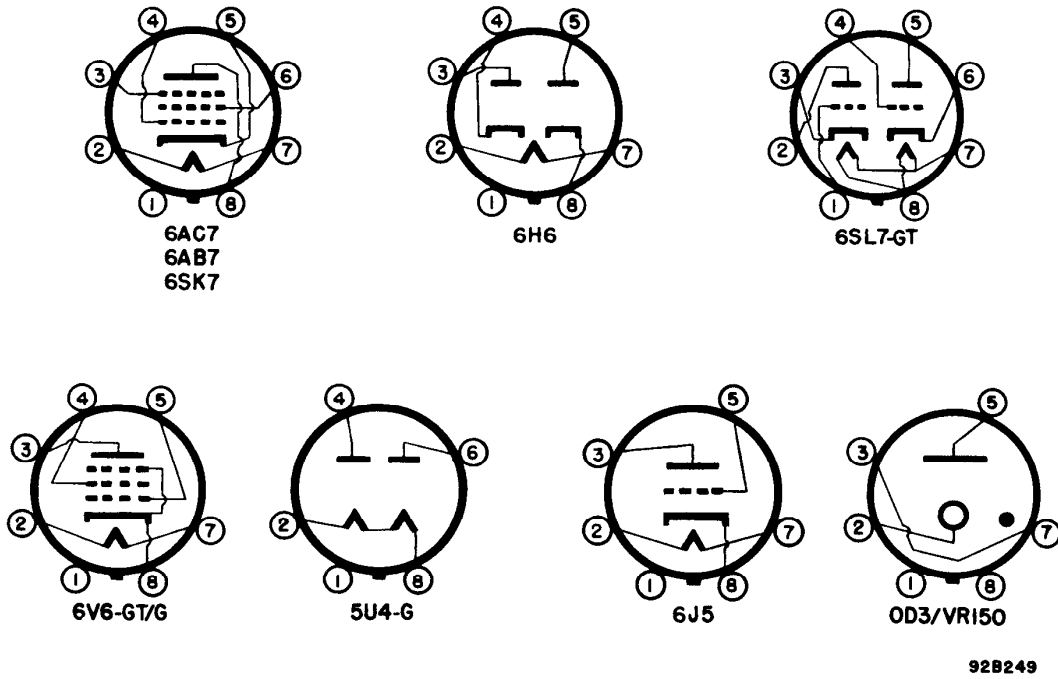

Figure 7-6. Radio Receiver Model S-36A, tube socket connections.
a. Voltage Chart. - Refer to Fig. 5-2. for the tube socket terminal voltages. Voltages shown are those between the terminal and ground (chassis) unless otherwise specified. To identify the tube socket connections, refer to Fig. 7-6. The readings were taken with an RCA Volt-Ohmmist Junior analyzer using 20,000 ohm per volt sensitivity. To prepare the receiver for measurement, disconnect the antenna, connect a jumper between the antenna terminals A₁, A₂ and GND, disconnect the speaker and replace with a 5000-ohm 10-watt resistor across the 5000-ohm output terminals or a 500-ohm 10-watt resistor across the 500-ohm terminals, and set the controls as follows:
b. Resistance Chart. - Refer to Fig. 5-3. for the tube socket terminal to ground (chassis) resistance measurements. To identify tube socket connections, refer to Fig. 7-6. The readings were taken with an RCA Volt Ohmyst Junior analyzer. To prepare the receiver for measurement, disconnect the a-c line cord and set the controls as follows: